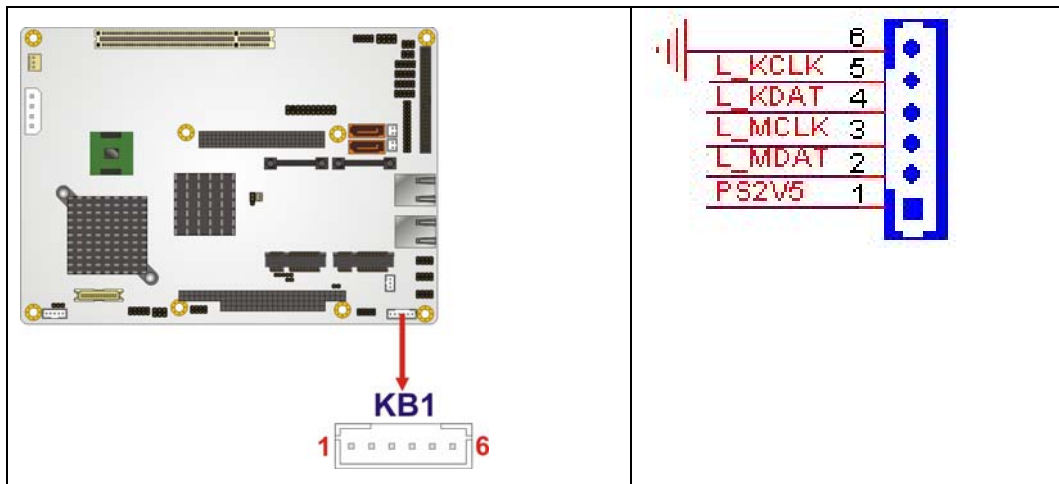

Figure 4-14: Keyboard/Mouse Connector Location
- CN Location:** See Figure 4-14